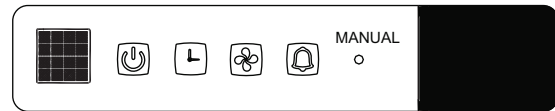

Fig. 22 Manual Button Location on Unit
- If the remote control is lost, damaged, or the batteries are exhausted, the system can be operated by using the manual button (forced Auto) located on the front panel (see Fig. 22).